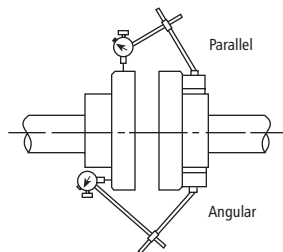

Figure 7
- Alignment **MUST** be checked prior to running. See Figure 7.